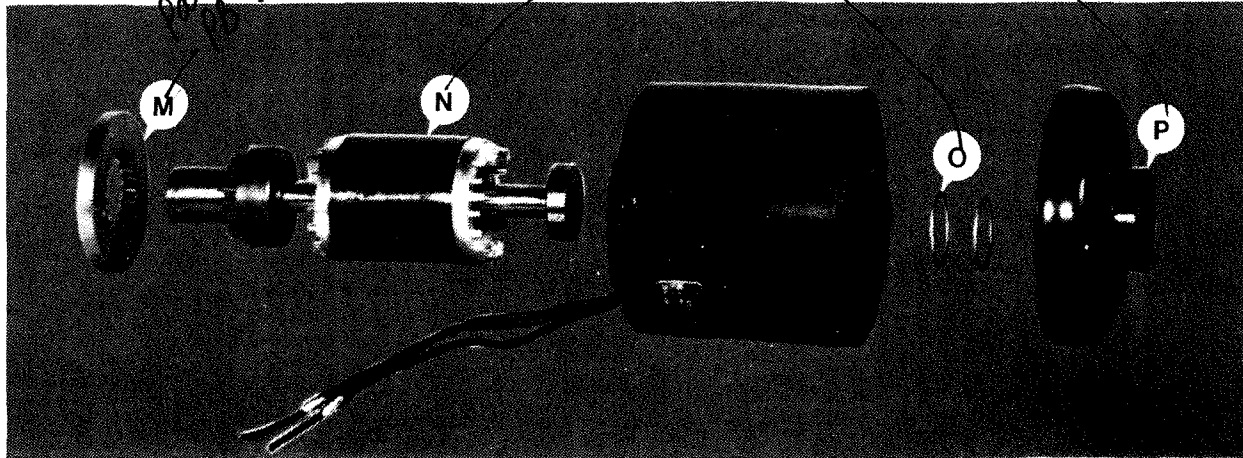

Figure 3.36 - Speed Change Motor Components
When removing motor cap "P", Figure 3.36, do not misplace two bearing spacers "O".
13. Remove motor cap "P", Figure 3.36 .
3. Install armature "N" and brake disc "M", Figure 3.36 .
4. Remove motor cap "P", Figure 3.36 .